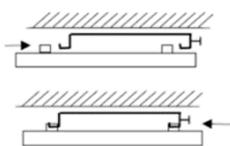

Fig.7
- Slide the panel into the mounting frame and **secure it using the enclosed screw (Fig. 7)!**